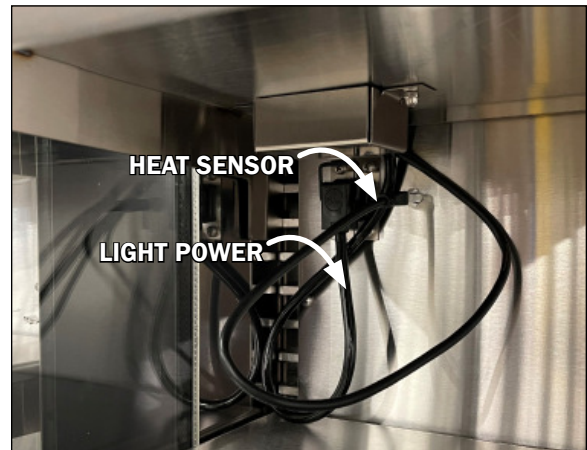

Fig. 5 LED light power cord & heat sensor
1. Unplug the luminaire (Fig. 5).